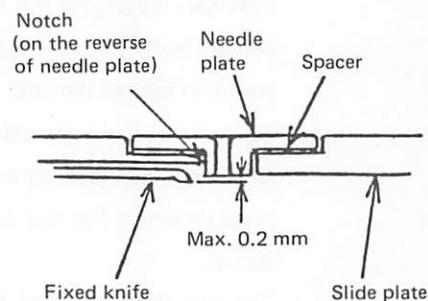

Fig. 10.15
- (2) Since trimmed thread contracts when bobbin thread tension is too large, or when elastic thread is used, decrease bobbin thread tension and needle thread tension as well. For the same reason, it is recommended to wind thread with smaller tension.
- (3) When the clearance of Fig. 10.15 is more than 0.2 mm, thin thread may be cut before the movable knife is actuated.
To prevent this, install the fixed knife being distant from the needle plate hole or remove the spacer below the needle plate to provide clearance of 0.2 mm or smaller between the fixed knife and the needle plate, as shown in Fig. 10.15.